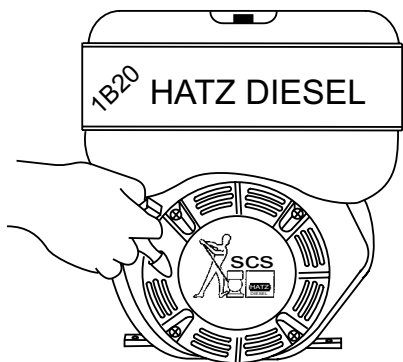

Figure 13. Recoil Starter Grip
- Pull the recoil starter grip (Figure 13) 2 or 3 times. DO NOT start the engine.